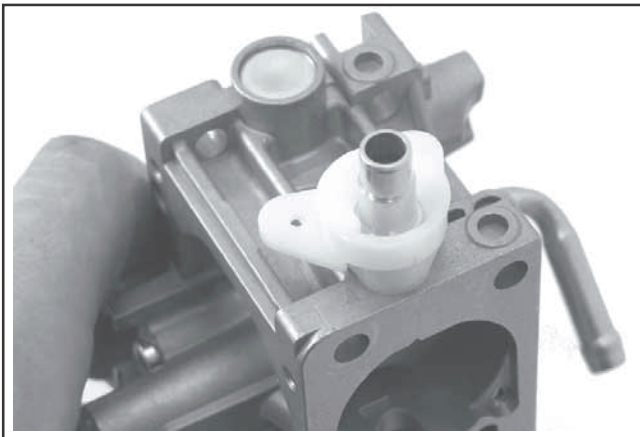

Figure 5-31. Installing Bushing.
8. Turn the old bushing upside down and use it as a driver to carefully press or tap the new bushing into the carburetor body until it bottoms. Check that the choke lever pivots freely without restriction or binding. See Figure 5-31.